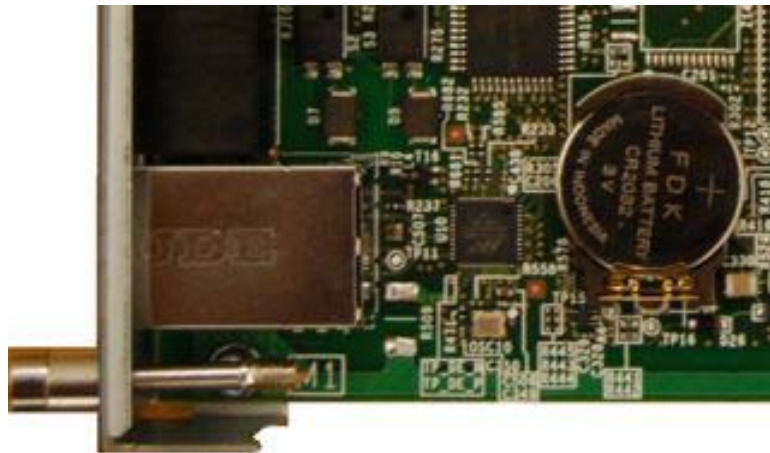

Figure 4-5 GCD-CP10 Battery Installation
1. Install the battery on the GCD-CP10. The polarity “+” symbol must be on top as illustrated in Figure 4-5 GCD-CP10 Battery Installation.
2. Push down on the battery, opposite from the plus (+) symbol (refer to Figure 4-5 GCD-CP10 Battery Installation).